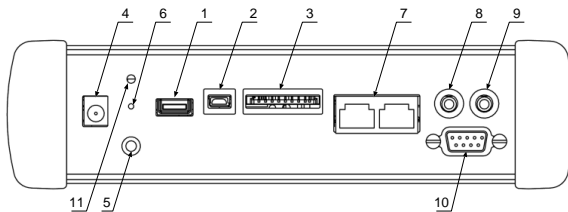

Figure 2.1. System Interface Panel
The front panel appearance is shown in Figure 2.1.
8. Provide a secure grounding of the device case by using an appropriate grounding jack (Fig.2.1, page 9).
- from an external power supply unit (see Fig.2.1).
**Bercut-MMT** can operate from an external power supply source — through an 220 V adapter. To connect the device, plug the adapter to 220 V main, and insert the other end to the external power adapter socket on **Bercut-MMT** (see Fig.2.1).